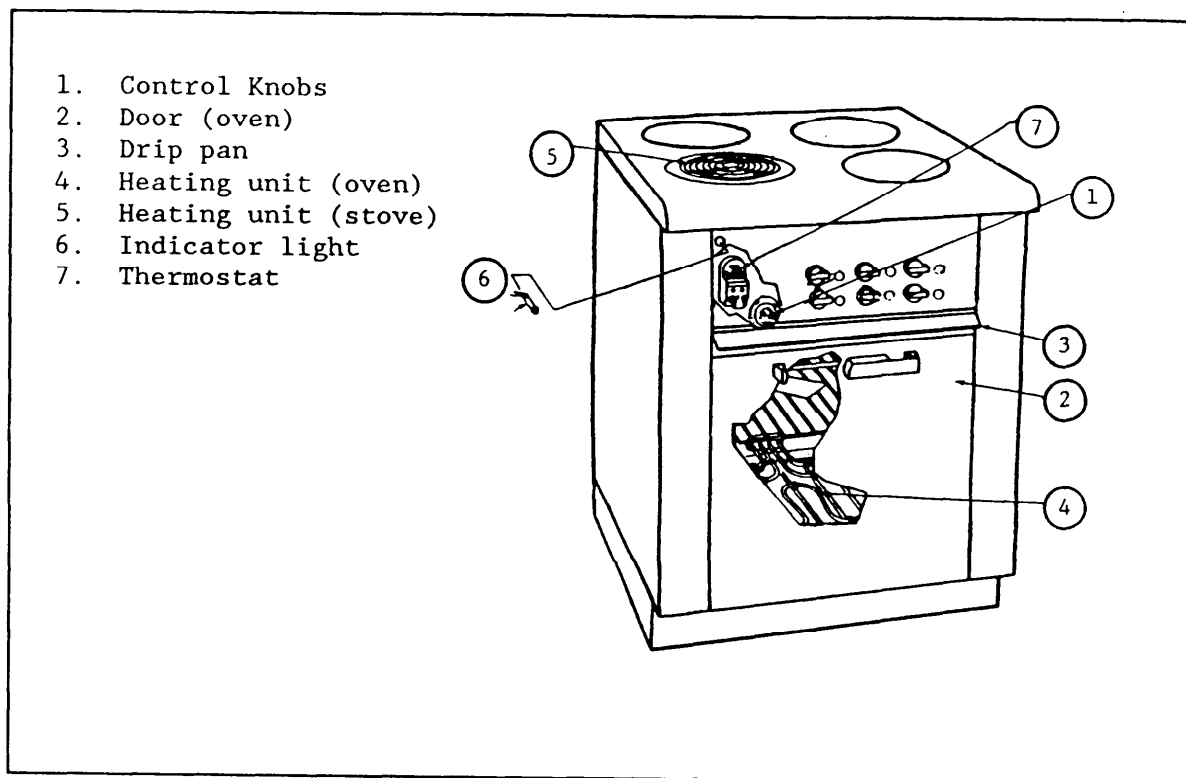

Figure 13
5.13.2 Major Range Components. Major range components include drip pan, heating elements, temperature control, and components from Ovens (see para. 5.5.2) and Boilers (see para 5.8.2). (Refer to Figure 13 and Table 22.)